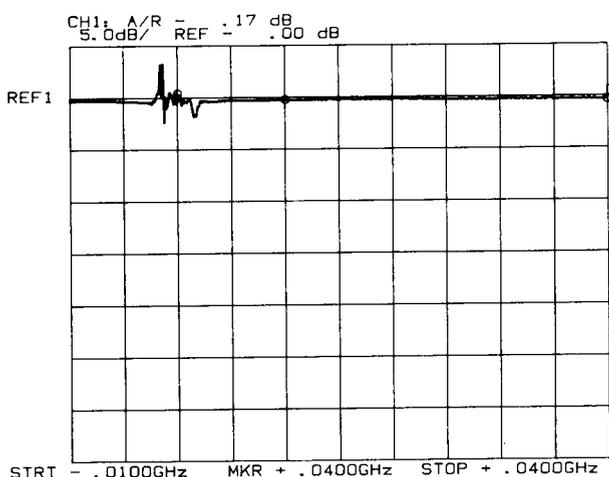

Figure 4-4. M-MEM Display
6. On the HP 8756A, select **M-MEM** (press **[DISPLAY]** until the **M-MEM** LED is on). The CRT display should be similar to Figure 4-4.